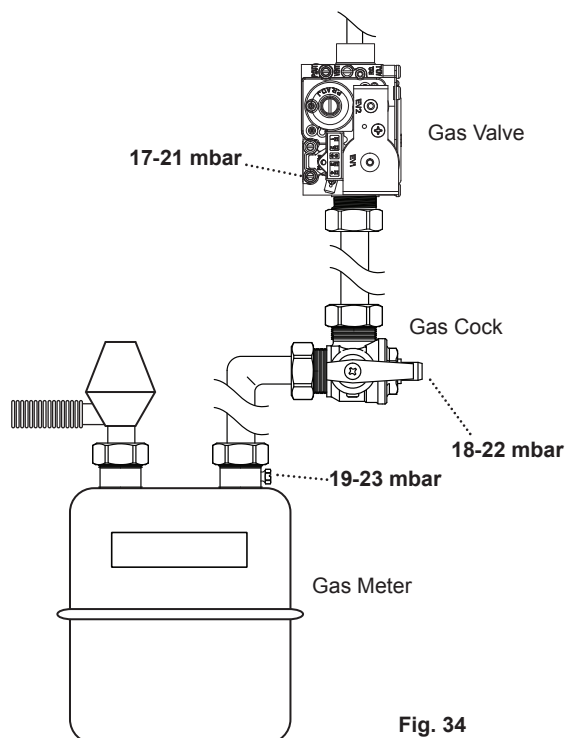

Fig. 34
2. With the boiler operating in the maximum rate condition check that the operational (working) gas pressure at the inlet gas pressure test point is in accordance with B.S. 6798 & B.S. 6891. This must be AT LEAST 17 mb at the valve & 18 mb at the gas cock! (Fig. 34)